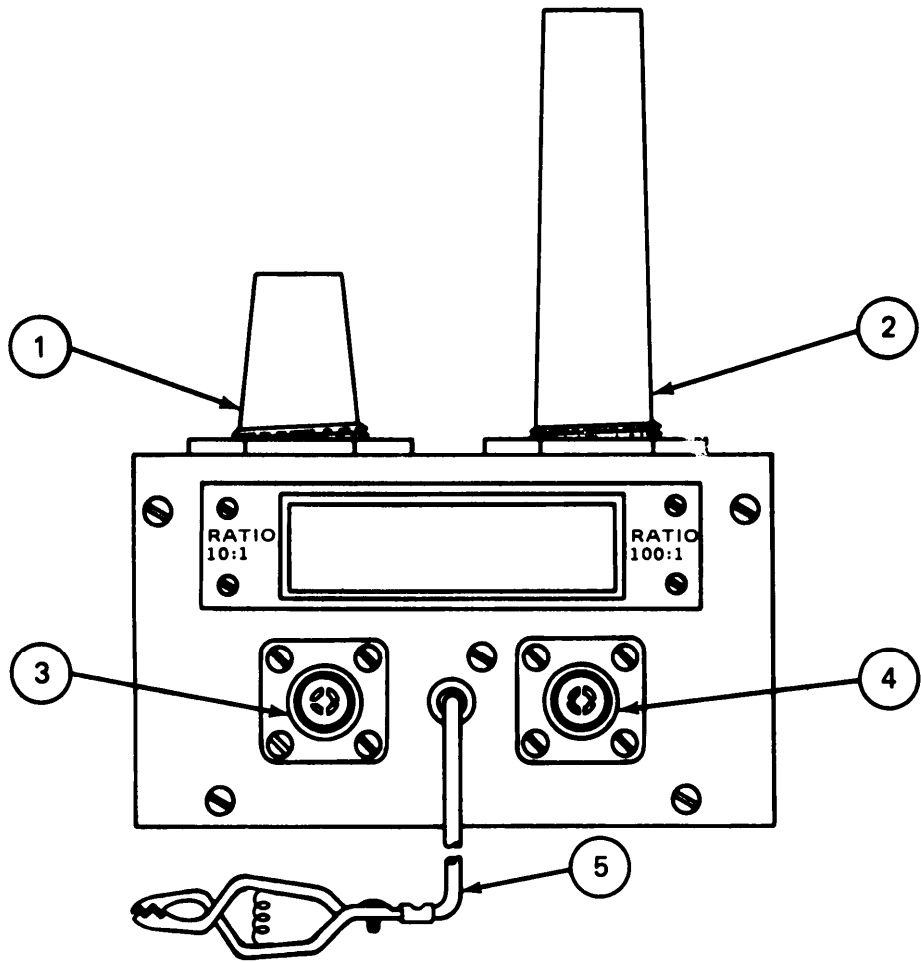

Figure 2-1. Multiplier, Electrical Instrument TS-265A/UP, Connections
The following procedure is used to determine safe operating conditions with regard to maximum voltages and input jacks. Refer to fig. 2-1 and table 2-1 during operation of the Multiplier.
- b. If the input voltage to be measured exceeds 5 kilovolts (W) peak-to-peak, use input jack J103 (fig. 2-1 and table 2-1) marked RATIO 100:1; otherwise use either jack J103 RATIO 100:1 or jack J102, RATIO 10:1.